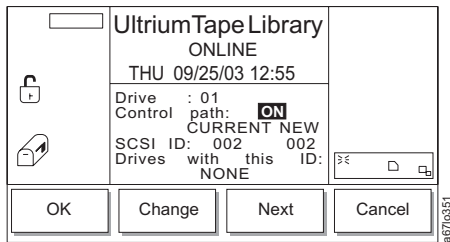

Figure 14-45. SCSI Submenu
1. Press the button below the **SCSI/FC** softkey. Depending on the type of drive, the SCSI or FC Submenudisplays (see Figure 14-45 on page 14-46). The submenu gives the settings for the selected Fibre Channel drive. The value of the current drive displays in the Drive: field. The Control path field indicates whether the drive is a control path. Valid values are OFF or ON.